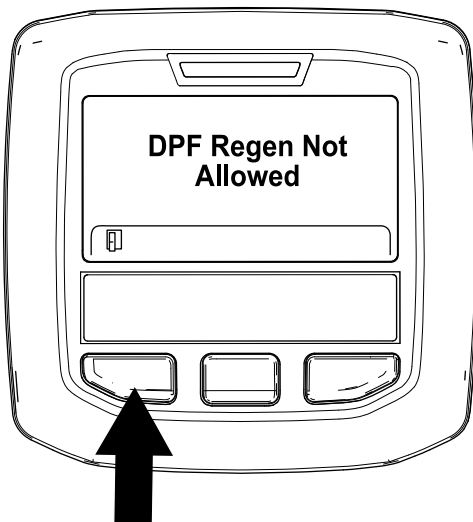

Figure 56
- If the regeneration process is not allowed by the engine computer, the "DPF Regen Not Allowed" message displays in the InfoCenter (Figure 56). Press the left button to exit to the home screen